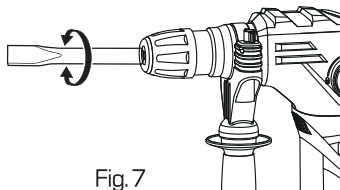

Fig. 7
- Press the push button and set the change lever to **T** mark. (Fig.6) The rotation is released, turn the tool and adjust the tool to desired position. (Fig.7)